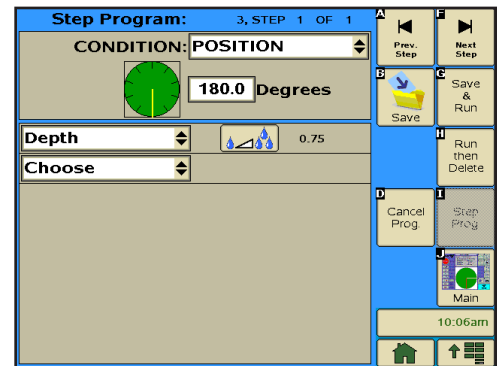

Figure 167-1
26. Program the position condition for this step. Refer to Figure 167-1.